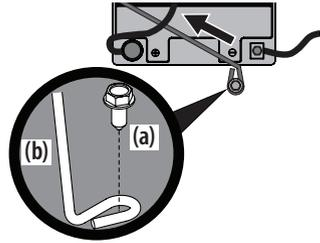

Figure 15
NOTE: Wiring harness should lay on top of battery hold down rod, otherwise damage to the wiring harness may result. See Figure 15 on page 12.
3. Remove the battery hold down rod by pushing the hooked end out of the tab on the fender to the right side of the battery. Then flip the battery hold down rod up to free the battery. See Figure 15.